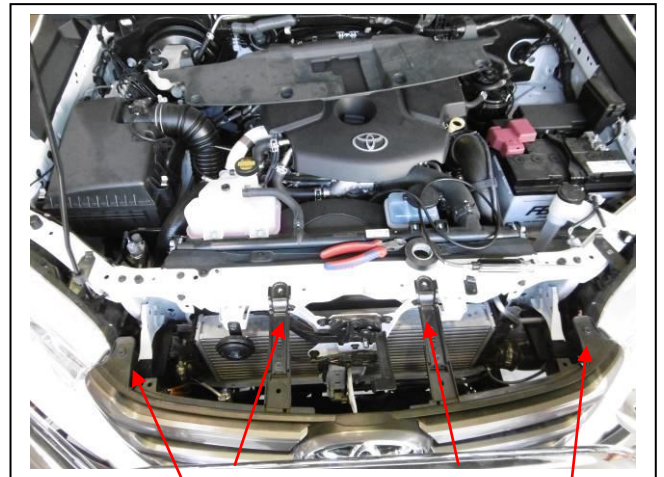

Figure 2
3. From top of grille, remove four 10mm head bolts. **See figure 2.**